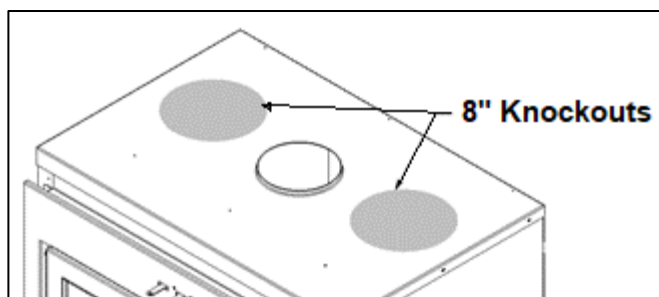

Figure 3-20: 8 Inch Knockouts for Gravity Kit
7. Remove the two 8" knockouts at the top of the unit using a flat head screwdriver (Figure 3-20).